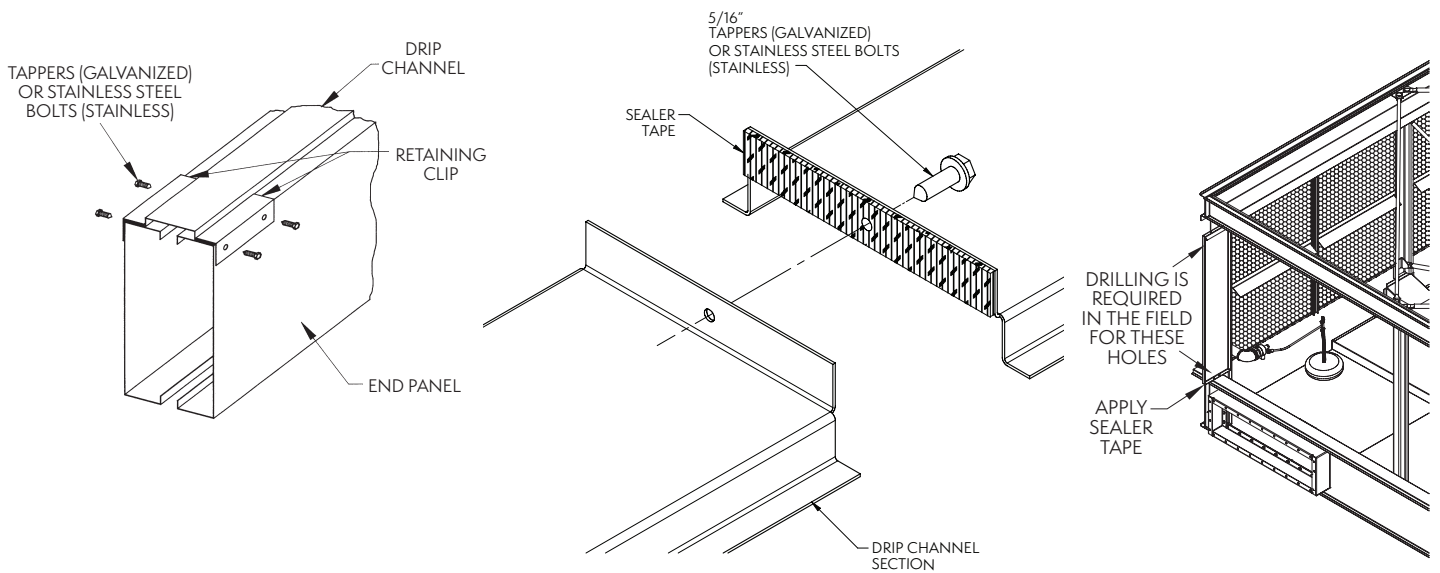

Figure 2b – Drip Channel and Vertical Splash Guard Installation
9. If there are multiple drip channels, apply sealer tape as shown in **Figure 2b**, fasten them together end-to-end by driving a self-tapping 5/16" (8mm) screw through the section end with the larger hole into the mating end with the smaller hole. Stainless steel units will use 5/16" (8mm) stainless steel nuts and bolts.
10. Place the vertical splash guard in the bend of the vertical supports. On galvanized units, attach the vertical splash guard using 5/16" (8mm) self-tapping screws. On stainless steel units, attach the vertical splash guards using 5/16" (8mm) stainless steel nuts and bolts. (See **Figure 2b**)
11. Attach the bottom of the vertical splash guard to the drip channel using 5/16" hardware and sealer tape as shown in **Figure 2b**.
12. This step only applies to units with a 5-1/8" (130mm) spacing between cells. Place the filler cap channel in the upper flanges of the bottom section as shown in **Figure 2b**. Attach to vertical splash guards using 5/16" (8mm) tappers (for galvanized units) or stainless steel nuts and bolts (for stainless steel units)